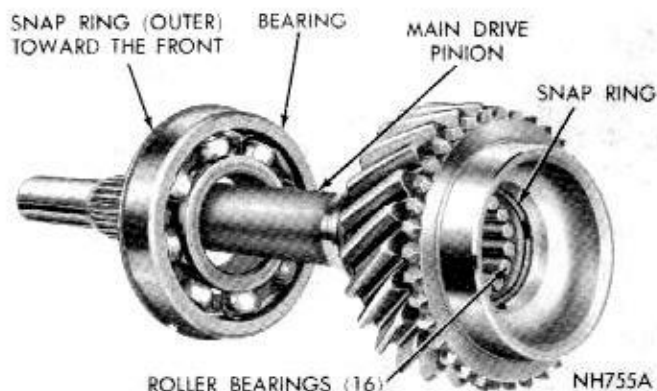

Fig. 34—Main Drive Pinion and Bearing Assy.
(5) Press main drive pinion bearing on pinion shaft. Be sure outer snap ring groove is toward front (Fig. 34). Seat bearing fully against shoulder on gear.